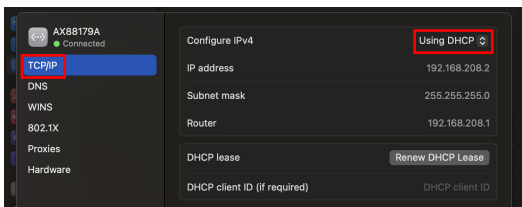

Figure 12
6. Select **TCP/IP** on the **Left Pane**. On the **Configure IPv4** field, change it from **Using DHCP** to **Manually**. (Figure 12)